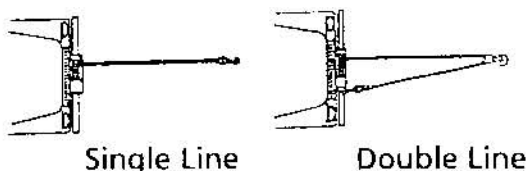

Figure 1
1. The X9 winch is rated at 9,000 pounds (4082 kg) (single line) capacity on the wire rope layer closest to the drum. **DO NOT OVERLOAD. DO NOT ATTEMPT PROLONGED PULLS AT HEAVY LOADS.** Do not maintain power to the winch if the motor stalls. Overloads can damage the winch and/or the wire rope and create unsafe operating conditions. **FOR LOADS OVER 6,000 POUNDS (2721 KG), WE RECOMMEND THE USE OF THE OPTIONAL PULLEY BLOCK TO DOUBLE LINE THE WIRE ROPE (Figures 1 & 15).** This reduces the load on the winch and the strain on the wire rope by approximately 50%. If attaching back to vehicle, attach to the frame or other load bearing part. **The vehicle engine should be running during winch operation to minimize battery**